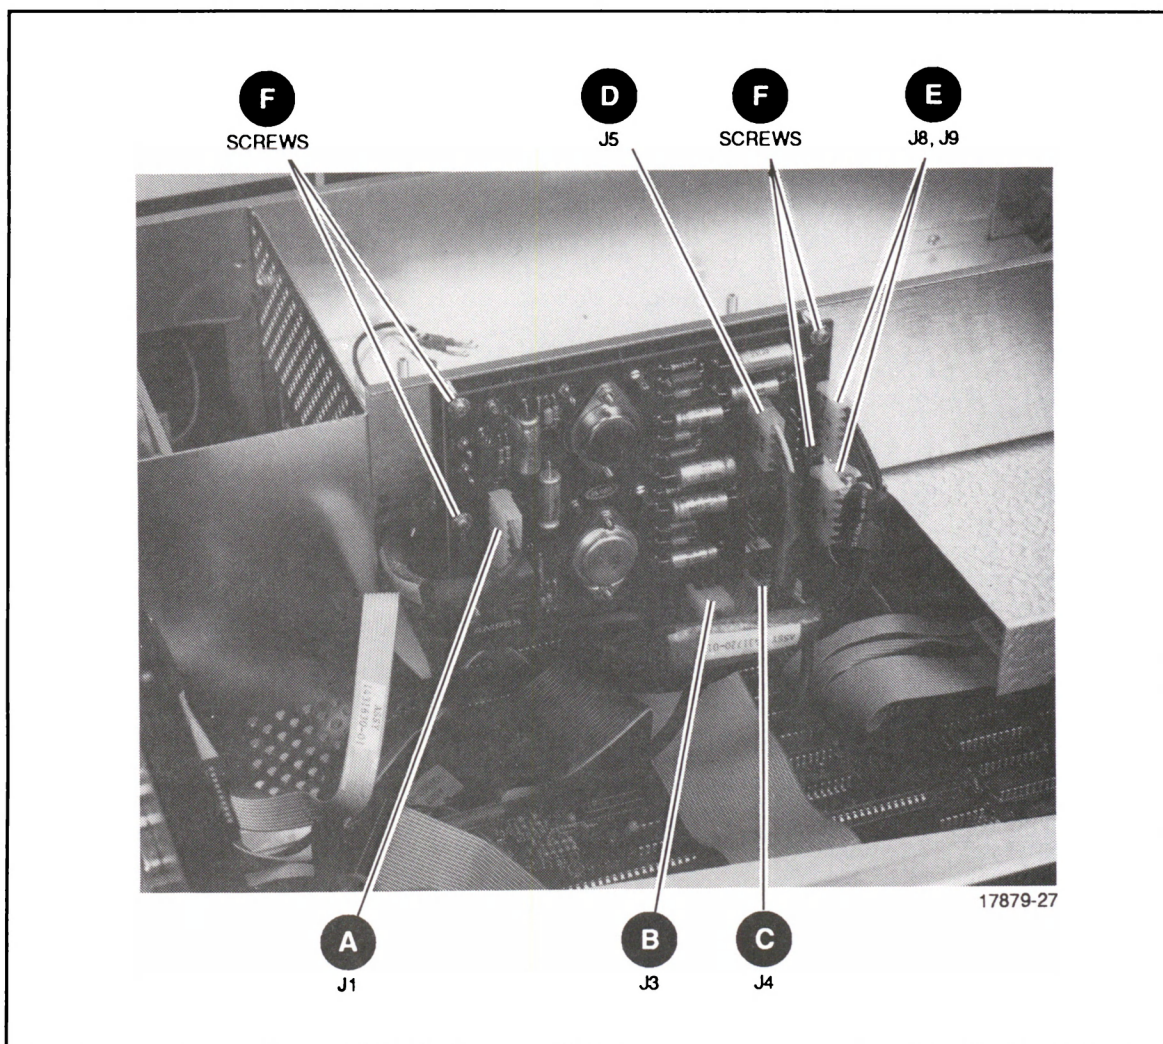

Figure 4-5. Regulator PWA Removal
The following procedure is used to remove the Regulator PWA. See Figure 4-5.
4. Unplug connector J1 on Regulator PWA for cable from Power Supply (see Figure 4-5 [A]).
5. Unplug connector J3 on Regulator PWA for leads from dc Fan (see Figure 4-5 [B]).
6. Unplug connector J4 on Regulator PWA from Switcher Backplane Assembly (see Figure 4-5 [C]).
7. Unplug connector J5 on Regulator PWA from ON/OFF switch (see Figure 4-5 [D]).
8. Unplug connectors J8 and J9 on Regulator PWA from CPU Motherboard PWA (see Figure 4-5 [E]).
9. Remove 4 cross-recessed screws securing Regulator PWA to side of Power Supply shielding (see Figure 4-5 [F]).